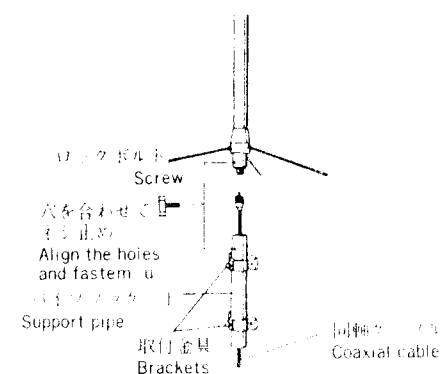

Fig. 3
4. Connect coaxial cable with UHF connector to the feed point receptacle through support pipe. And align the holes in the feed point section and support pipe securing with screw as shown in Fig. 3.